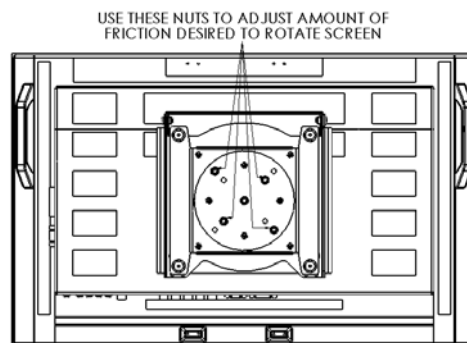

Figure 7
5. Set desired amount of friction for rotating the screen by tightening or loosening the four nuts on the backside of the MAC-400. See Figure 7.